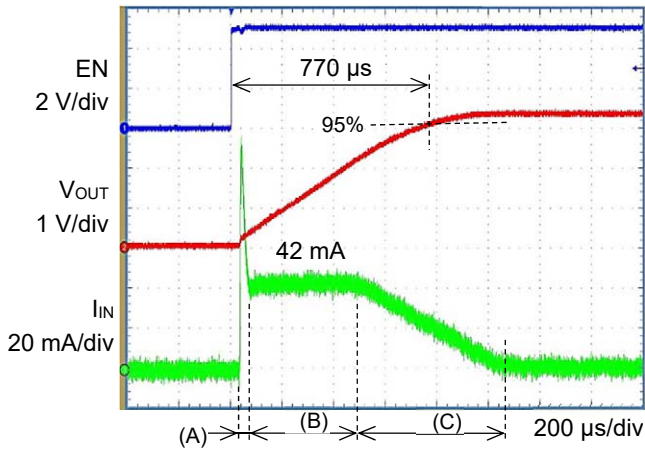
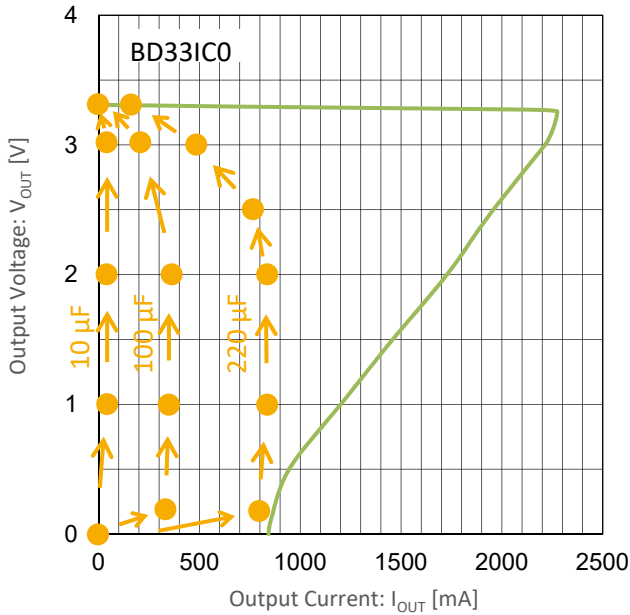

Figure 17. Startup waveforms
Figure 23. Characteristic of over current protection and the track of inrush current
From Figures 17 to 22, the startup waveforms are shown when the output capacitor is varied from 10 μF to 1,000 μF .
First, the startup sequence is explained for the capacitor with a capacitance of 10 μF as shown in Figure 17. The output voltage starts increasing slowly with a constant slope under the enable control. This slope is set by the soft start control, and the rise rate is designed to be 800 μs for this IC (the time for the voltage to reach 95% of the specified voltage). After the output voltage has risen by 0.1 V, an inrush current of 116 mA is observed. This inrush current is caused by the operation delay of the soft start circuit and the current is reduced after it becomes possible to control the output (section (A)). Then, the output voltage increases with time at a constant slope while the output current remains constant (section (B)). Namely, the peak current is regulated to 42 mA. As the output voltage approaches the specified value, the rise rate of the soft start circuit is decreased and the output current starts to decrease (section (C)).
case of 10 μF , the output current is increased since it requires more electric charge to charge the capacitor. However, the peak current is regulated to 350 mA. The inrush current seen in Figure 17 is not observed immediately after the enable control since the inrush current is masked by a larger peak current that flows after the enable control.
Under the conditions for Figures 17 to 19, by overlaying the characteristic of the over current protection and the track of the inrush current, you can see that the IC starts up without activating the over current protection to apply the current limit as shown in Figure 23. In addition, the output voltage increases with the soft start time of approximately 800 μs , which is the specified value, since the current limit is not applied.